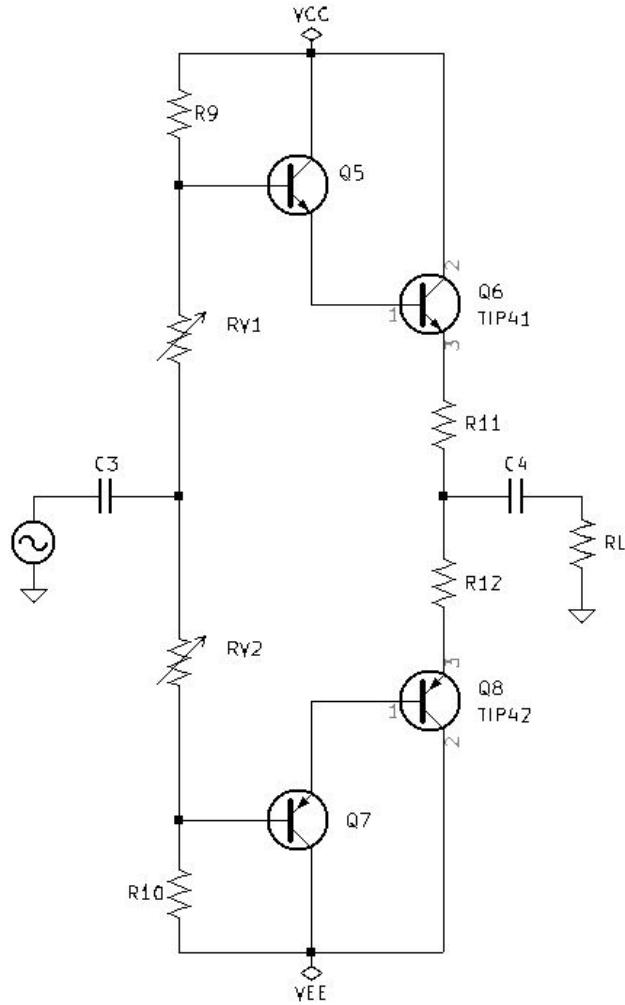

Figure 5.3: Push Pull Amplifier Calibration Circuit.
4. See Figure 5.3 *Push Pull Amplifier Calibration Circuit* on page 54. Replace the diodes D1 and D2 with a variable 10-turn variable resistor. This resistor can be calculated using the formula $R_{var} \approx \frac{1.4V}{I_{Diode}}$. Make sure the variable resistor is capable of going just above the calculated resistance. In the circuit, replace diodes D1 and D2 with the 10-turn variable resistor and adjust the variable resistor to 0Ω . Repeat this step for diodes D3 and D4.